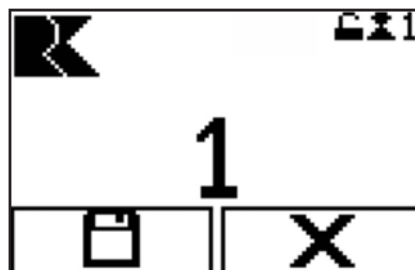

Figure 118 - Storing memory positions
2. Select the memory position (1 - 7, Figure 118) to which the current drive position is saved.